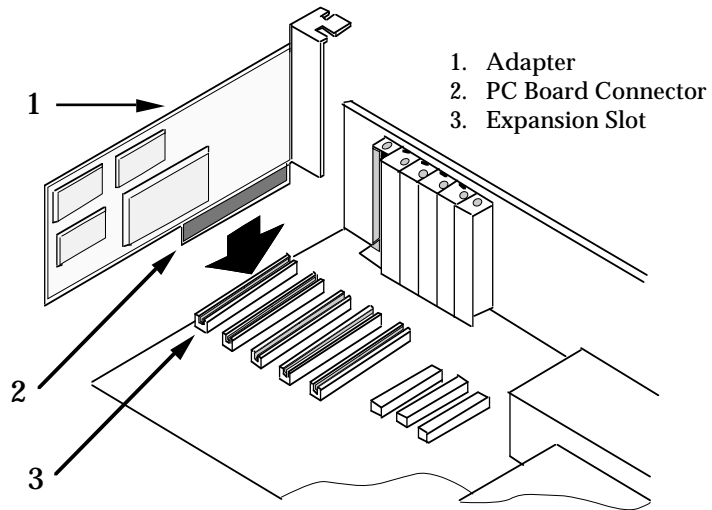

Figure 2-7. Installing the E1100 Series Adapter
Carefully insert the adapter into the expansion slot as shown in Figures 2-7 and 2-8. Orient the adapter (1) so the PC edge bus connector (2) is pointed down and the ports face out the back of the PC. Align the adapter so the PC bus edge connector is lined up with the expansion slot (3), and firmly press, but do not force, the adapter into the slot.